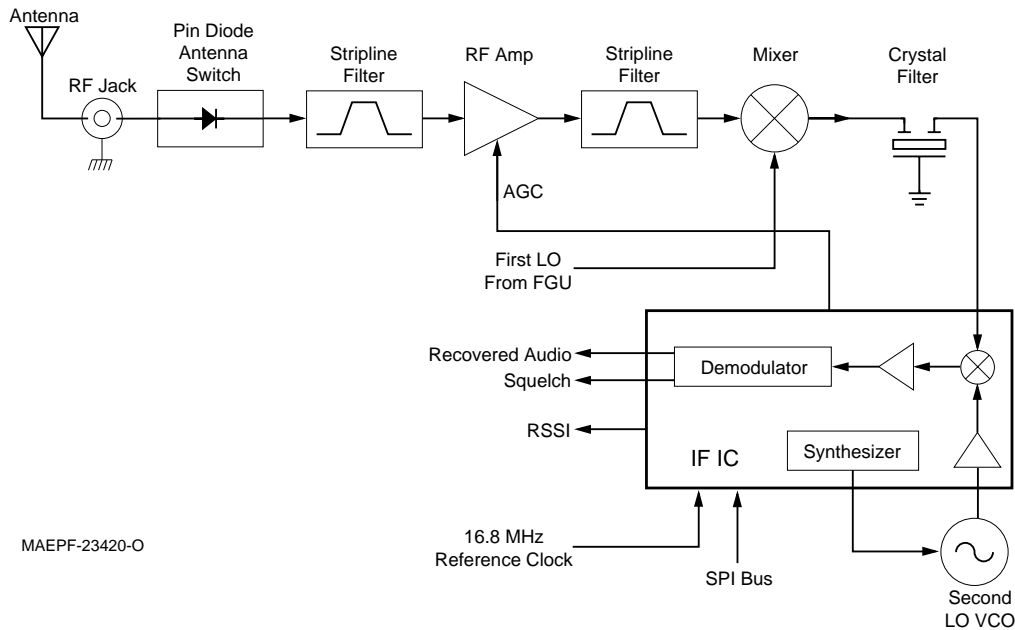

Figure 6. 800/900MHz Receiver Block Diagram
C. Receiver Front End (See Figure 6)
D. Receiver Back End (See Figure 6)